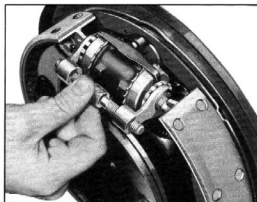

Fig. 14—Installing Brake Wheel Cylinder Clamp
2. Install wheel cylinder clamp, Fig. 14 (J-718C) to keep the wheel cylinder pistons in place and prevent leakage of brake fluid while replacing shoes.